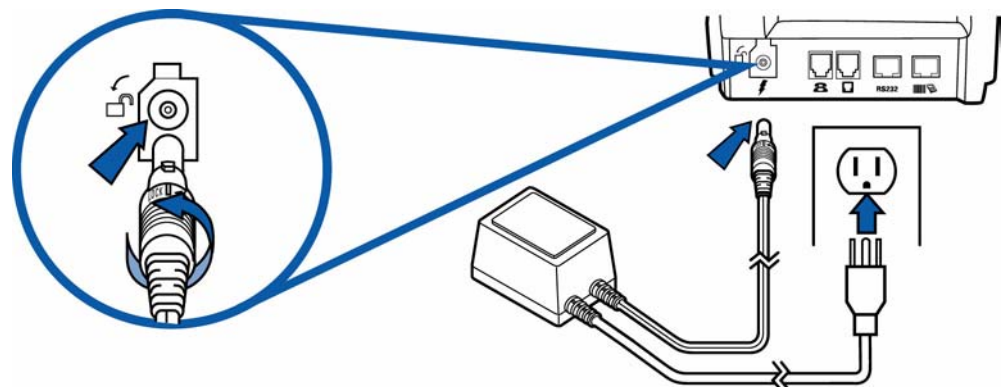

Figure 12 Omni 3200SE/3210SE Power Pack Connection
- The power connection port uses a round barrel connector with a lock notch (see Figure 12) to securely connect the terminal to a power source. This port is identified by the electrical power icon shown at right.
- 1 Insert the round barrel connector (see Figure 12) into the power port, identified by the icon at right.
- 1 Temporarily disconnect the terminal from its power source by removing the power connector from the power port on the back panel (see Figure 12).